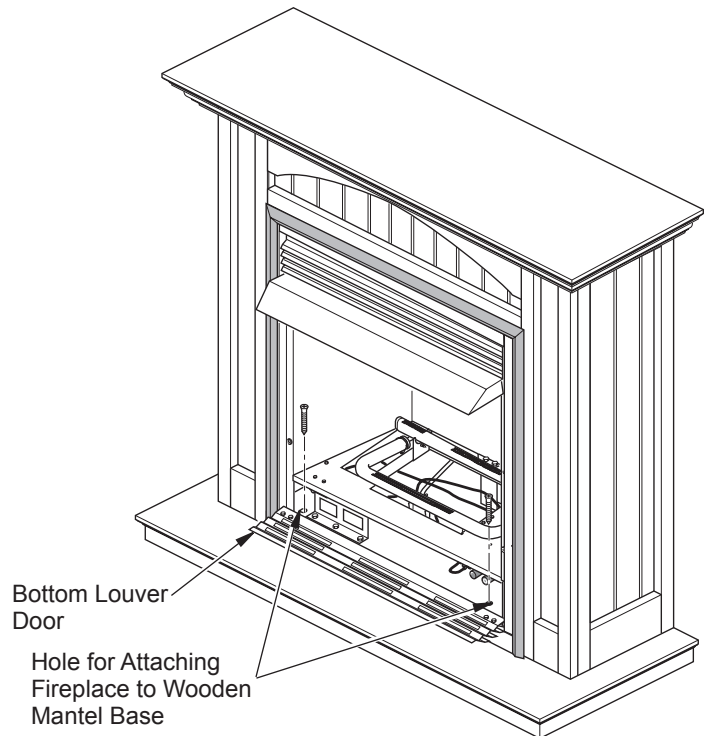

Figure 10 - Attaching Fireplace to Mantel Base
6. Lower bottom louver door. Use two 3" wood screws provided in hardware package and attach fireplace base to wooden base (see Figure 10). Close louver door.